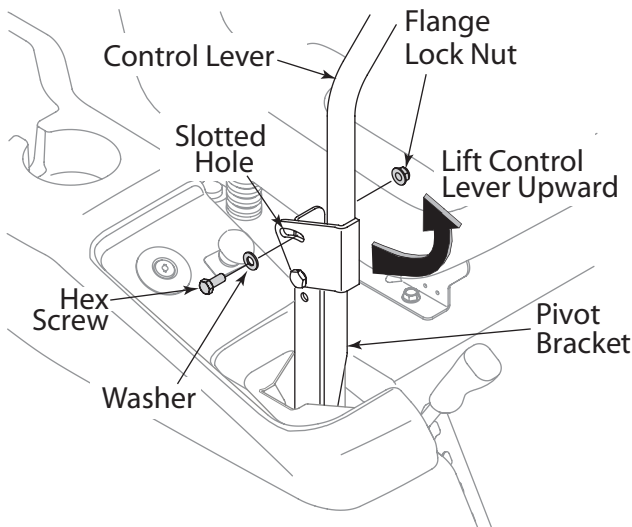

Figure 3-3
2. Lift and swing that control lever upward until the slotted hole in the lever bracket aligns with one of the holes in the pivot bracket. Refer to Figure 3-3.
3. Slide the flat washer onto the hex screw. From the outside, insert the hex screw w/washer through the control lever slot and the hole of the pivot bracket. Secure with the flange lock nut. See Figure 3-3.